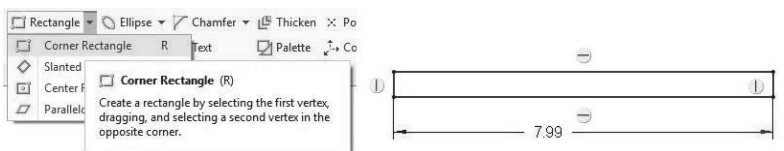

Figure 3-49 Rectangle
- Step 5:**  *Select* the **Rectangle** tool, and then draw a rectangle as shown below by *selecting* the location of two of its opposite diagonal corners using the LMB. Don't worry about its size right now. See Figure 3-49. The  icon lets you know this line is horizontal. The  icon indicates that the line is vertical.